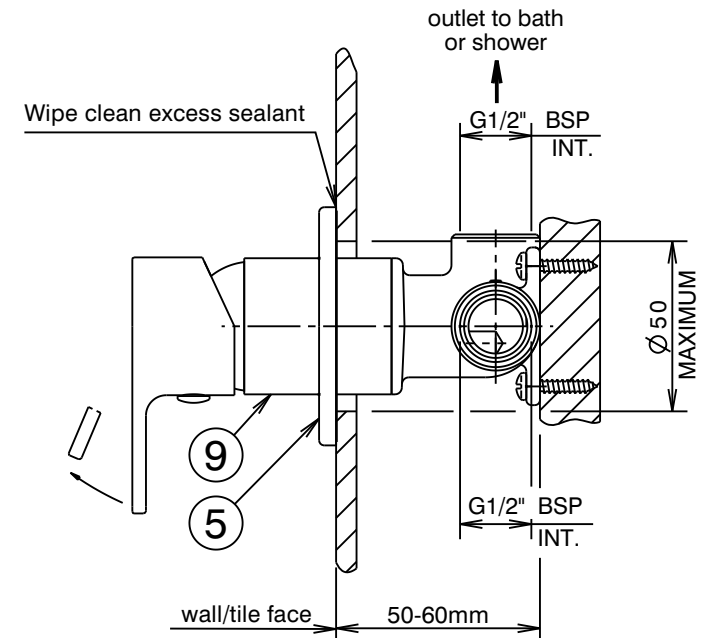

Fig. 1
### Installation (Fig. 1 & 2)
- \* Mixer body (9) must be installed square to wall/tile face, to ensure cover plate (5) sits flush.
- 2) **Trim kit:** Apply a suitable clear sealant to the back face of the cover plate (5), leaving an unsealed section at the bottom for drainage. Carefully fit the cover plate (5) onto the mixer body (9). Push the cover plate (5) firmly against the wall/tile face. Wipe clean any excess sealant from the cover plate surfaces and the wall/tile face (See Fig. 1).
- 3) Fit handle (1) taking care that it is pushed fully onto cartridge stem, then tighten grub screw (2) using the 2.5mm allen key (3). Fit plug (4), taking care not to damage the decorative finish.